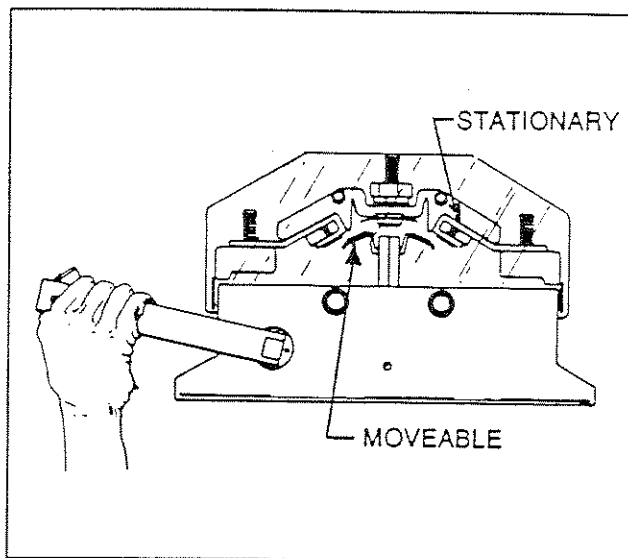

Figure 4. Stationary and Moveable Main Contacts
The stationary main contacts are retained in a "pole assembly" which may consist of either two (2) or three (3) poles that are sandwiched together. The pole assembly is retained in the transfer mechanism by two (2) thru-bolts. See Figure 4.
This one-piece carrier (Figure 4) pivots on a single shaft. It is available as a 2-pole or a 3-pole carrier, as required. Each set of moveable contacts is retained in the carrier by a spring.